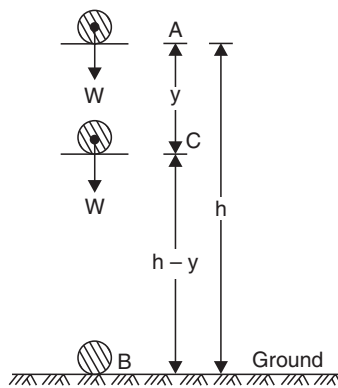

Fig. 9.4
**Proof.** Refer to Fig. 9.4. Let a body of mass ‘ $m$ ’ be lifted from the ground to a position A, so that it is at a height ‘ $h$ ’ above the ground.